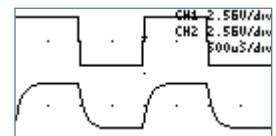

Figure 61: RC Measurements
- 5) The display should look similar to figure 61.